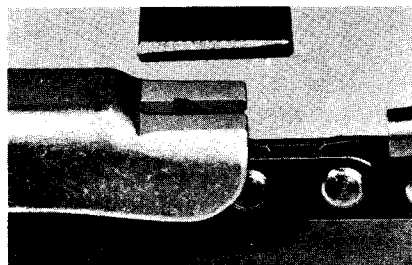

Fig. 74 — Filing Depth Gauge Level with Tool
6. If depth gauge on chain projects above tool file down, Fig. 74.